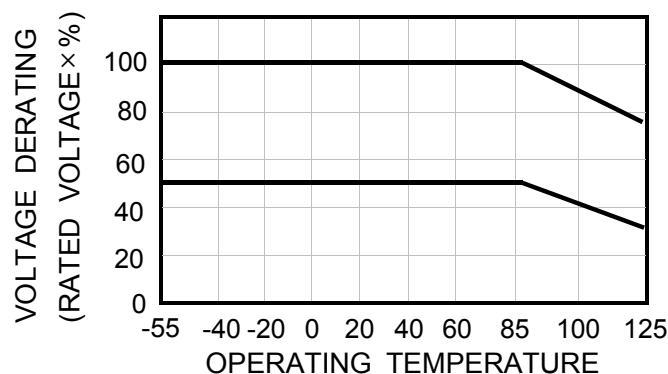

Fig. 3
- ▶ When the tantalum capacitors are to be used at an ambient temperature of higher than 85 °C, the recommended operating range shown in Fig. 3 should not be exceeded.